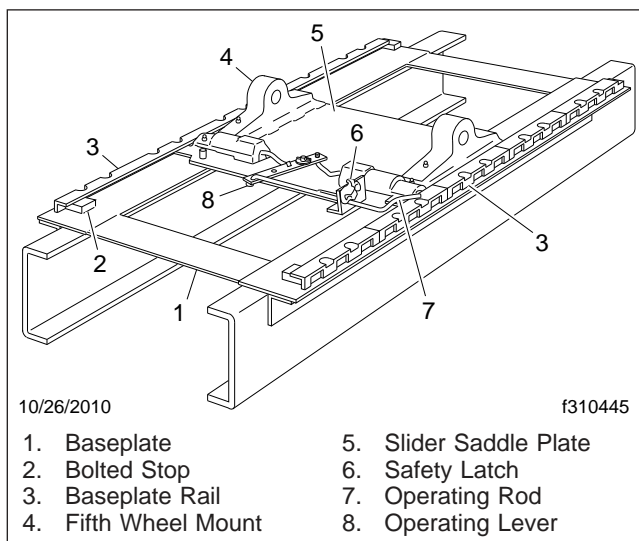

Fig. 18.13, Sliding Fifth Wheel Manual Release, (Holland Simplex)
- 2.2 **Holland:** Pull the operating rod out. Make sure both side plungers have released. See **Fig. 18.13**.